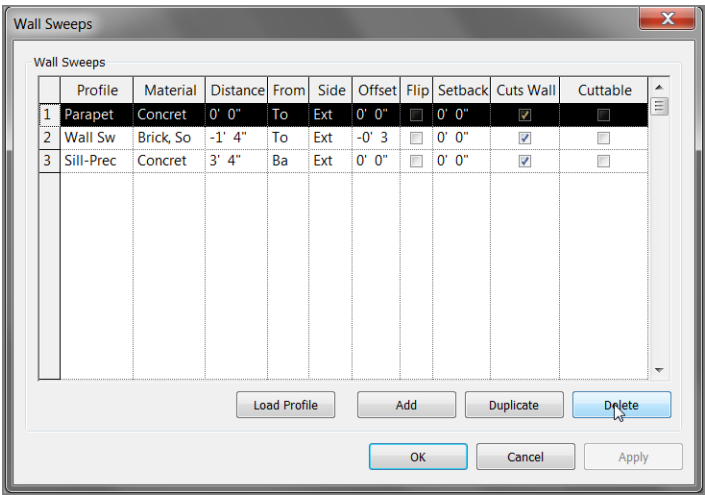

FIGURE 7.22: Deleting the Parapet Cap sweep
9. In the Wall Sweeps dialog box, you see three sweeps. The top sweep is the parapet cap. Select sweep 1 (Parapet Cap), and click the Delete button, as shown in Figure 7.22.